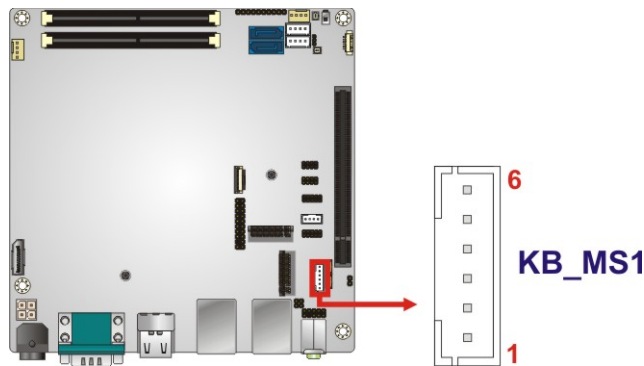

Figure 3-16: Keyboard and Mouse Connector Location
- CN Location:** See Figure 3-16